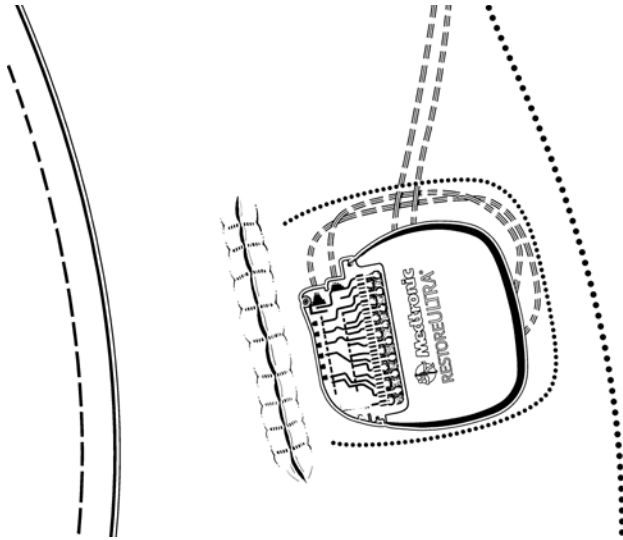

FIGURE 65
- 1 Follow standard procedure for wound closure (FIGURE 65) and bandaging.